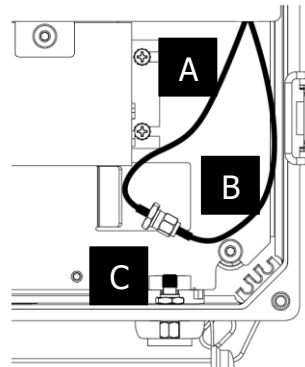

Figure 2
1. With the lower cover of the wiring compartment removed, find the cable A and B and connector C as shown below in the bottom right of the unit. (Figure 2).